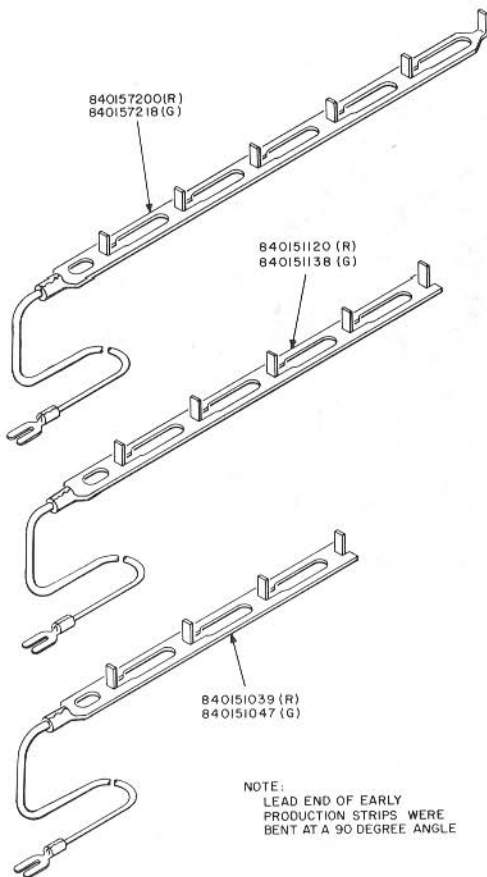

Fig. 8—Contact Strip Used With 635-Type Keys
- (1) Install proper contact strips furnished with 635-type keys (Fig. 8).